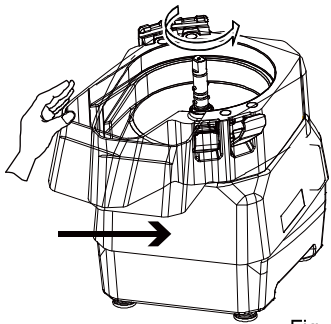

Fig. 1
4.4.3.1 Place middle base onto bottom base as Figure 1, and use your left hand to move the middle base in arrow direction.